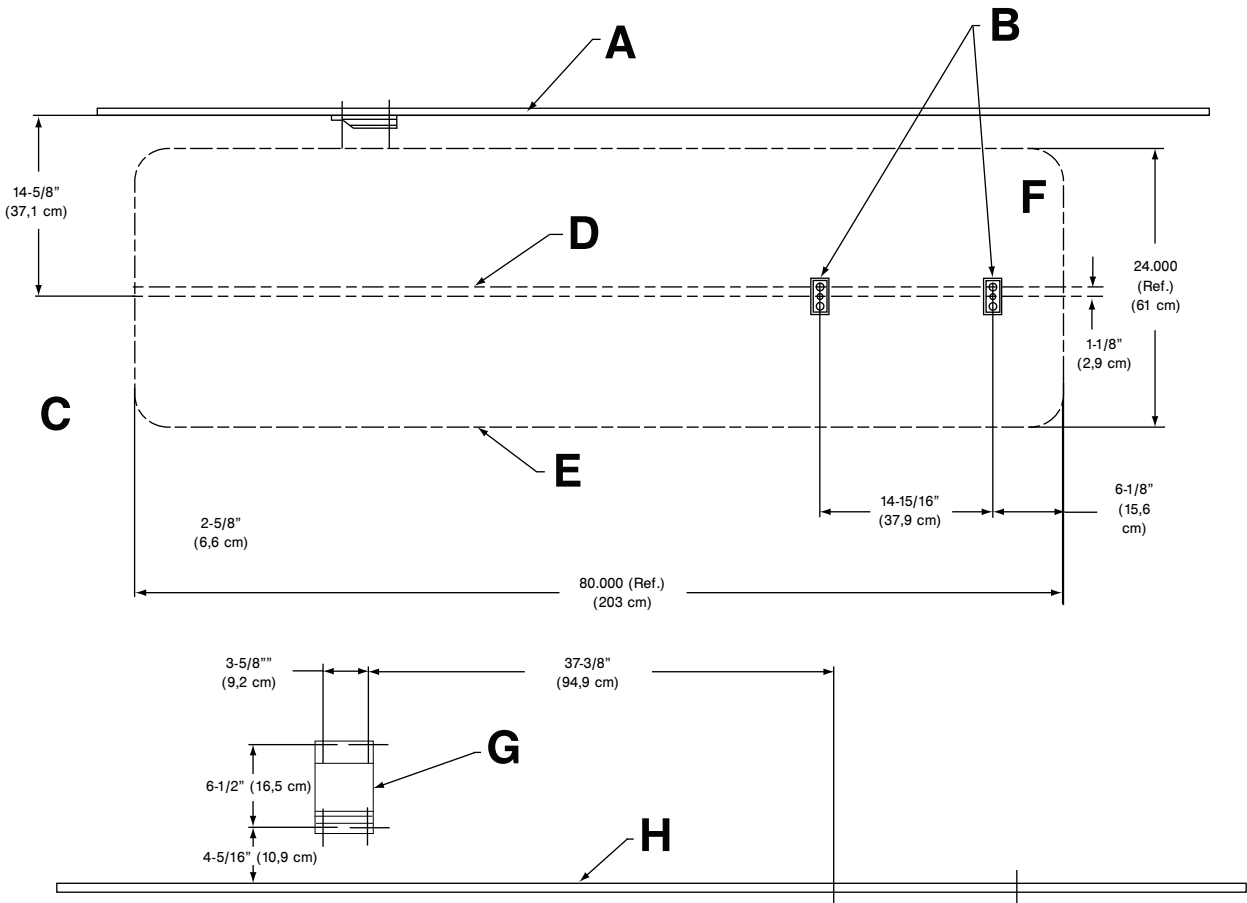

Figure 15 – Wall plate installation locations
- Using the dimensions shown in Figure 15, locate and drill the points where the floor plates will attach.
5. Using the dimensions shown in Figure 15, locate and drill the four points where the rail wall mounting bracket will attach.